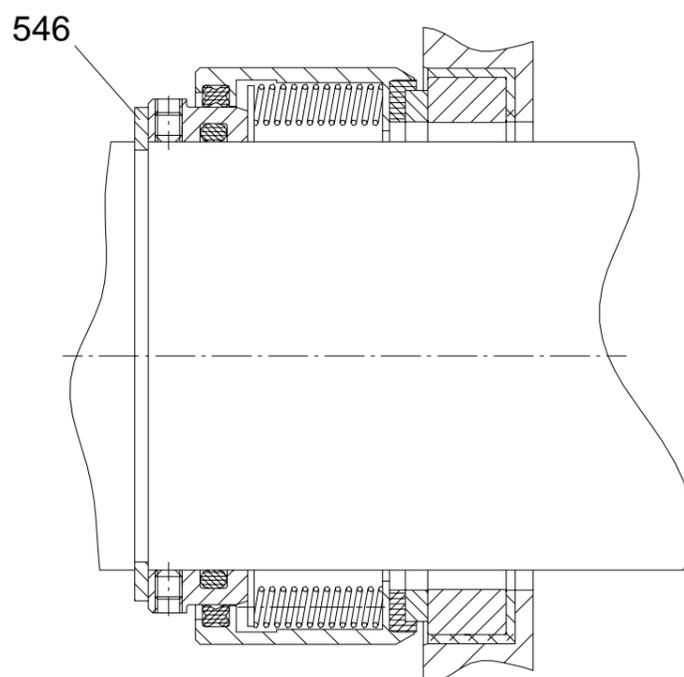

Fig. 18
d) Stainless-steel-shroud seal - type "X" (Fig. 18)